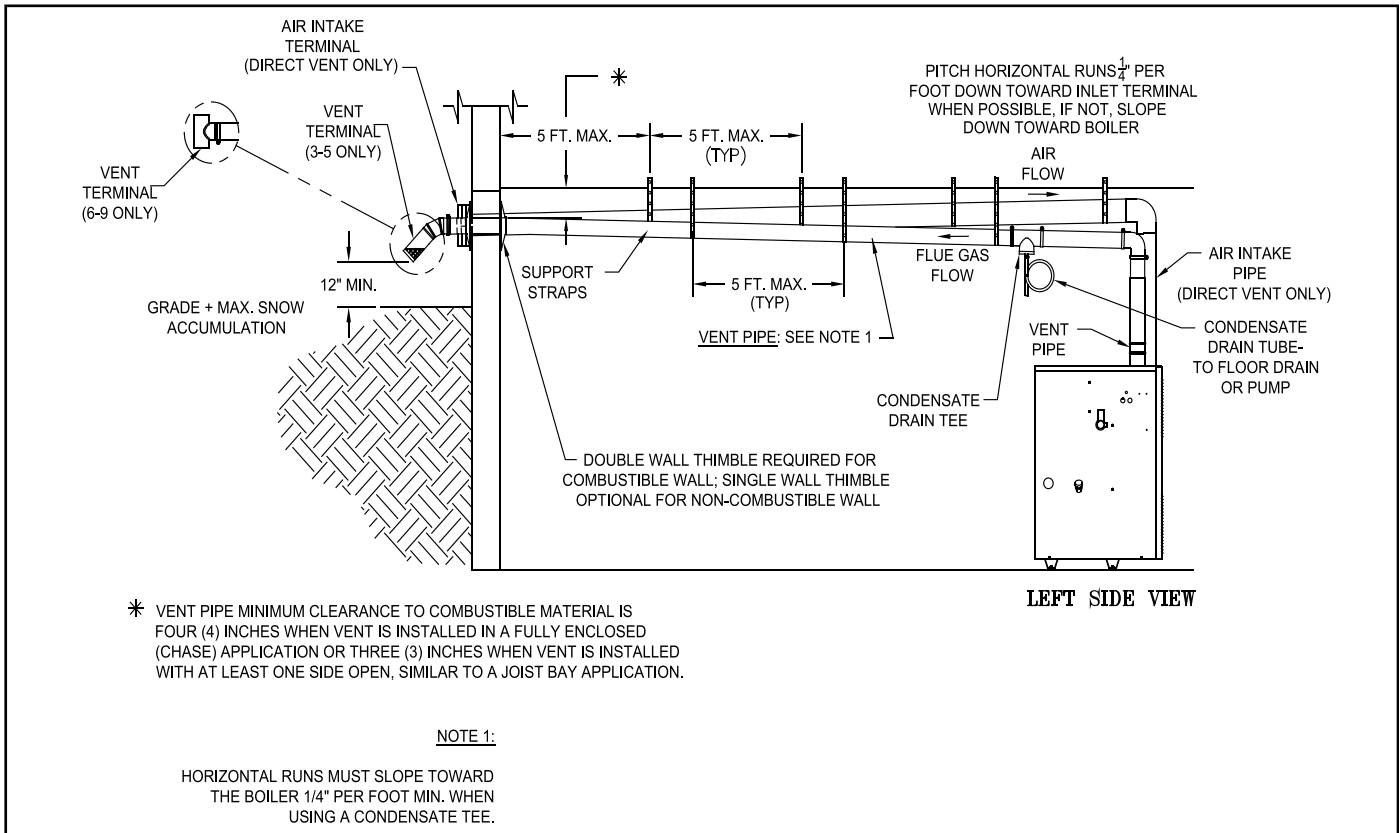

Figure B-3: Separate Horizontal – Vent/Air Intake Installation
1. Install vent and intake piping per Figure B-3.